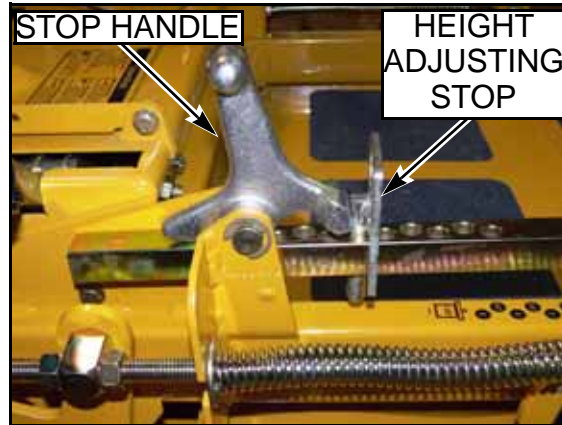

FIG. 91
in the 3-1/2" hole, and turning the height stop so that the pin side is against the stop handle "FIG. 91"
5. Clamp the height adjusting stop against the stop handle "FIG. 91". This will assure that the height will not move during the setting process. Otherwise, spring pressure from the deck lift springs will tend to pull the stop away from the handle.